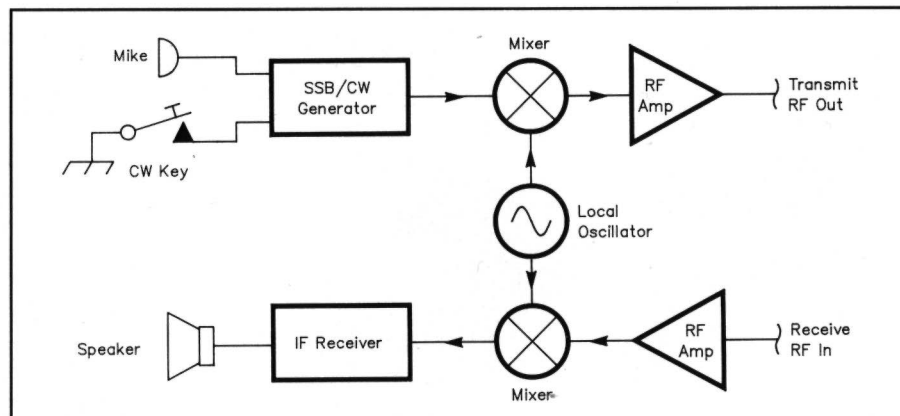

Fig 1—SSB/CW transceiver block diagram.
Fig 1 is the block diagram of the SSB/CW transceiver. The transceiver has an SSB/CW generator and IF receiver, a pair of mixers and a local oscillator (LO) to perform the IF-to-RF frequency conversion, and RF amplifiers to set the receiver noise figure and increase the transmitter power. The same arrangement can be used for signal frequencies from a few kilohertz to hundreds of gigahertz.